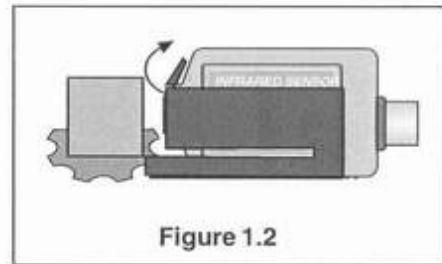

Figure 1.2
4. With the Infrared Sensor (or Thermal Radiation Sensor), take a measurement of the radiation emitted from the black surface at room temperature. To take a measurement, place the Infrared Sensor approximately 3 cm from the cube's surface (such that the metal support on the shutter is barely touching the cube) and use your index finger to press the metal shutter inward (see Figure 1.2). The hole on the shutter will align over the sensor opening.)